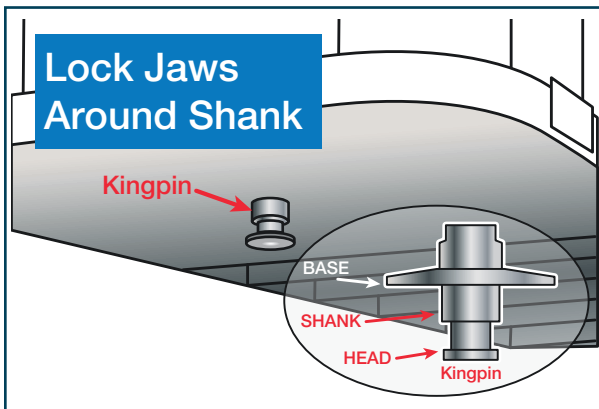

Figure 6.16
- ▲ Locking jaws are around the shank, not the head of kingpin. See Figure 6.16; and